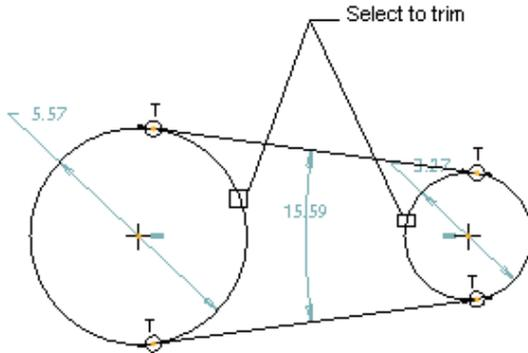
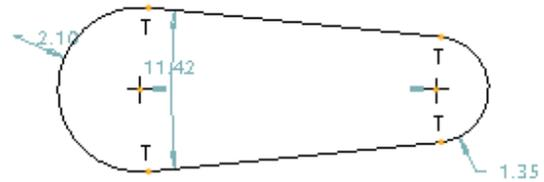

Figure 2-36 Locations to trim
Figure 2-37 Sketch after trimming
2. Select the two circles individually to trim them at the locations shown in Figure 2-36. Figure 2-37 shows the two circles after deleting the unwanted portions of the circle.